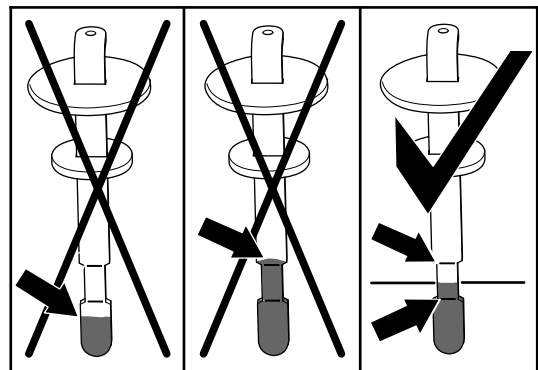

Figure 114
6. Remove the dipstick and check the fluid level (Figure 114).